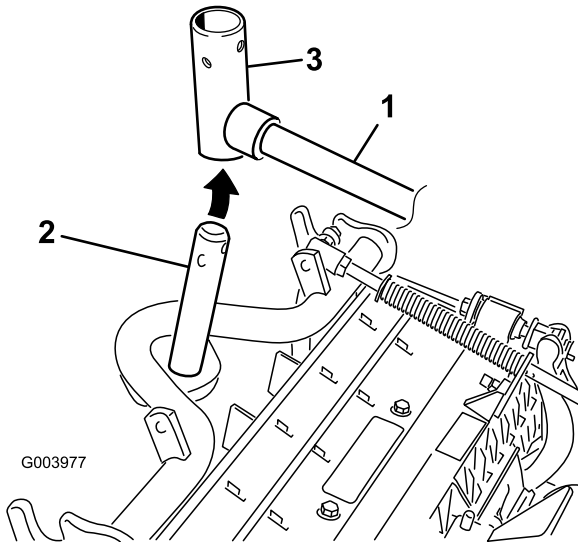

Figure 10
8. For the front cutting units, slide a cutting unit under the lift arm while inserting the carrier-frame shaft into the lift-arm-pivot yoke (Figure 10).
- B. Insert the lift-arm yoke onto the carrier-frame shaft (Figure 10).